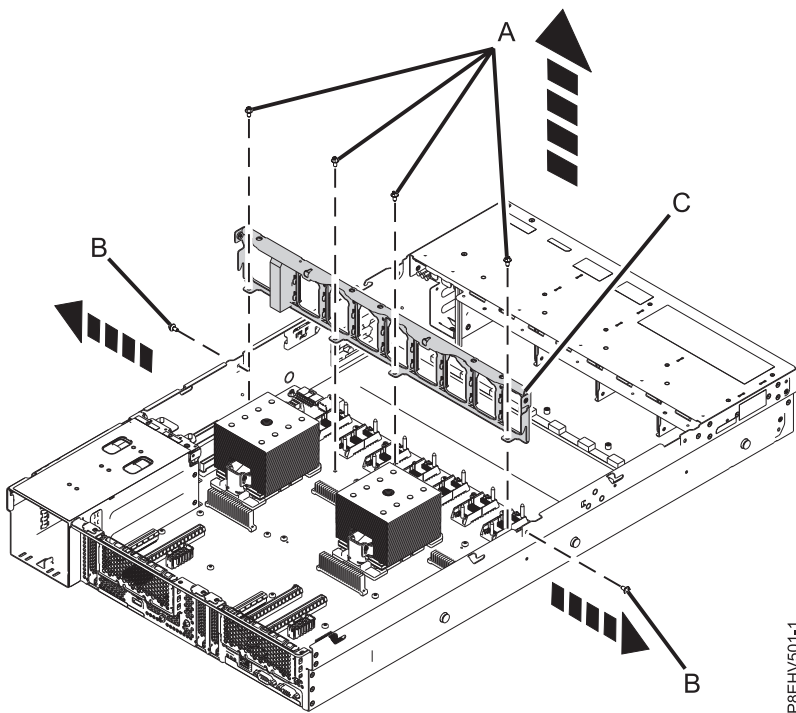

Figure 63. Remove the middle support and screw locations
10. Remove the middle support (C). See Figure 63.
- a. Remove the two screws (B) from each side of the system.
- b. Remove the four screws (A) that connect the middle support to the system backplane.
- c. Lift out the middle support (C).